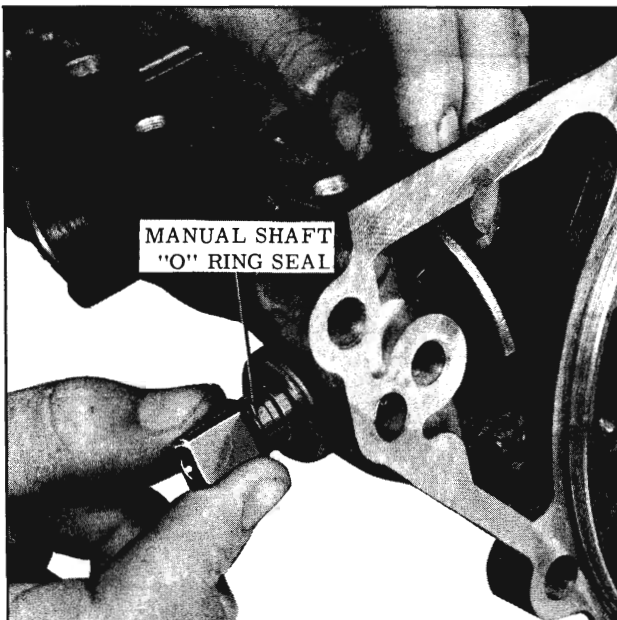

Fig. 3-72 Installing "O" Ring Seal
7. Install manual shaft "O" ring. (Fig. 3-72)